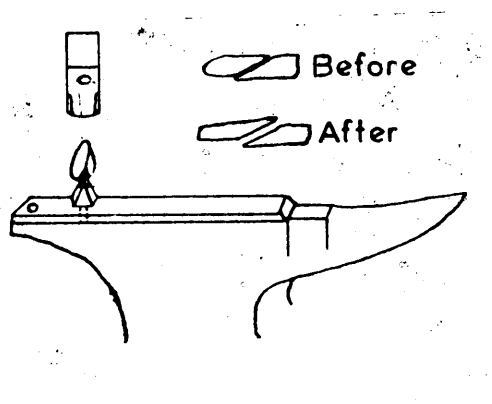

Figure 1.
2. Open ends enough to get other rings in. (Figure 1). This should be done on the hardie, by placing the two scarfed ends, on each side of the sharp edge of the hardie and striking a blow with the hammer. (Figure 1).